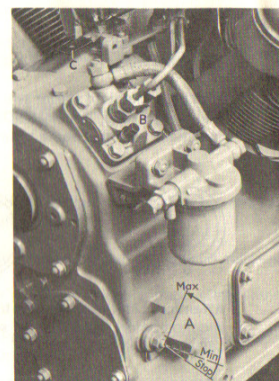

Fig. 1
- 3.2. Move the engine speed control lever to the full power position (max.) (A) (Fig. 1)
Operate lever or pushbutton (B) for starting fuel (Fig. 1)